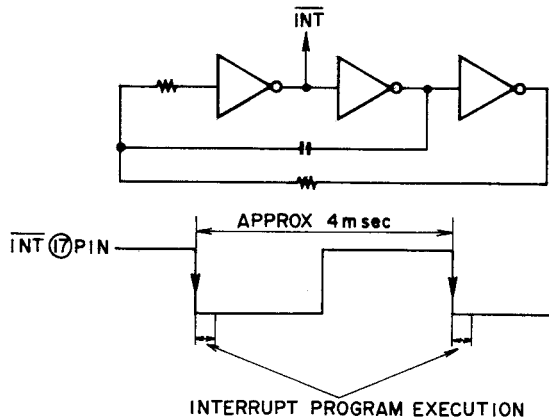

Fig. 12 $\overline{\text{INT}}$ Signal Oscillator and Waveform
The waveform shown in Fig. 12 is applied to pin ⑰ of terminal $\overline{\text{INT}}$ from the oscillator circuit of IC6. As terminal $\overline{\text{INT}}$ falls from "H" to "L", the CPU interrupts execution of the main program and changes to the interrupt processing routine. Since the waveform applied to $\overline{\text{INT}}$ rises and falls in intervals of approximate 4 msec (250 times per second), the interrupt processing routine runs regularly in the same intervals.